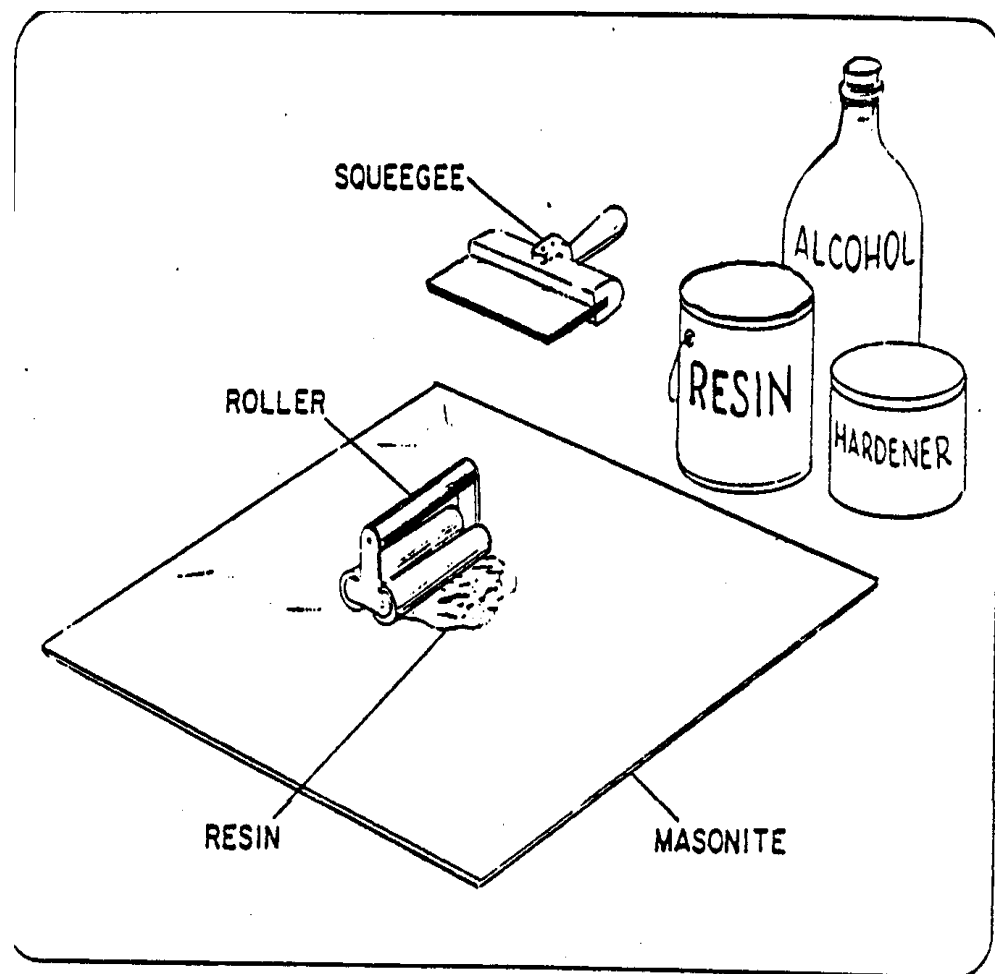

Fig. 2
D. From scrap wood cut out four (4) wedges 10 cm. long and 5 cm. high as shown in Fig. 2. These will be used in part 4.
3. Applying a thin uniform coat of adhesive. See Fig. 2.
D. Pour the prepared cement on the center of the Masonite and spread it evenly over all the surface in a very thin coat with a stiff squeegee or rubber blade. Use long, smooth strokes to prevent ridges and press down quite hard. (See Fig. 2.)